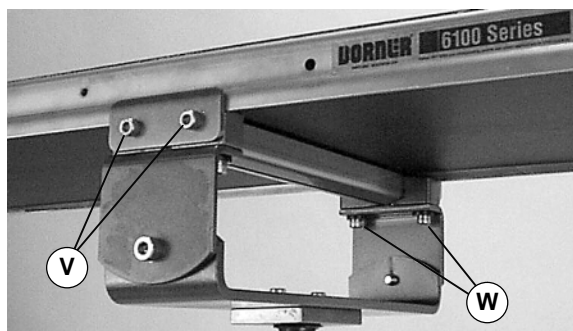

Figure 15
3. Attach clamp plates on each side of conveyor (Figure 15). Tighten the screws (V) to 80 in-lb (9 Nm).